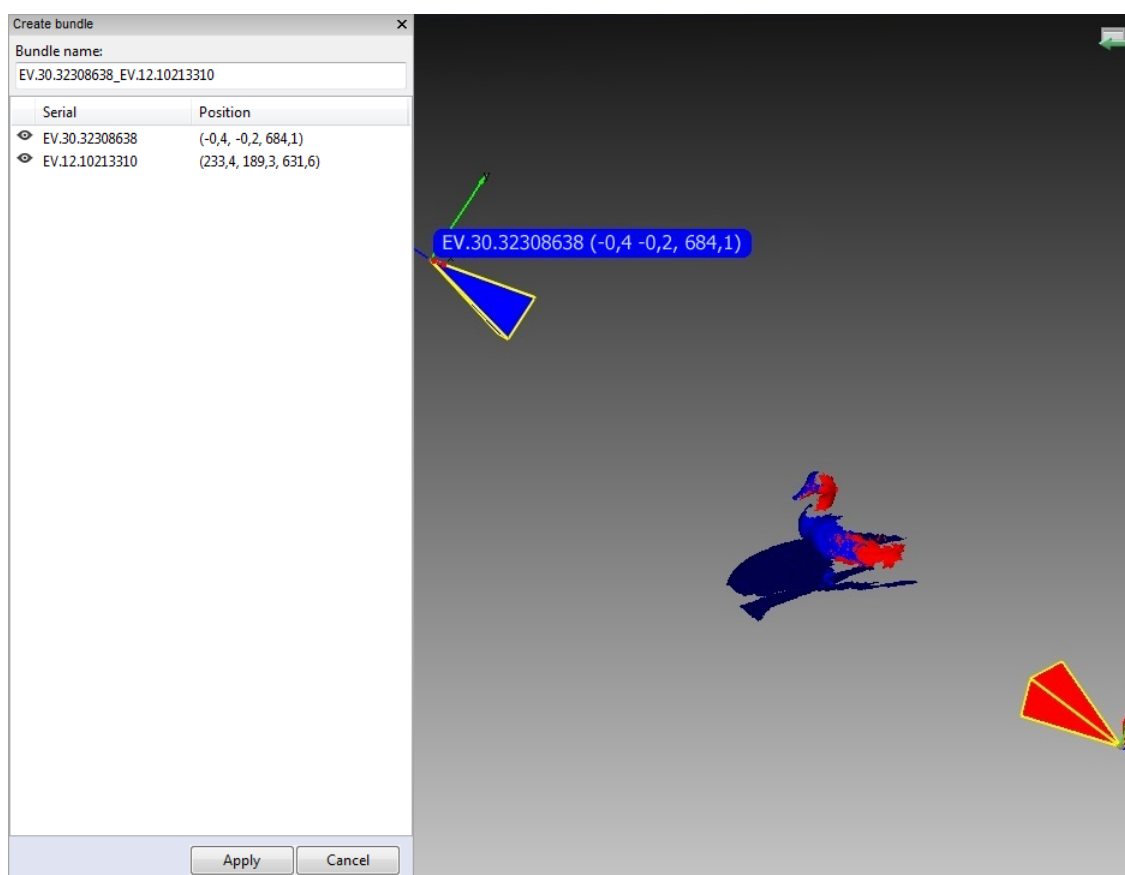

Figure 190: Bundle-creation window.
7. From the menu, select *File* → *Create bundle*. A warning message will appear if you forget to align the scans. Otherwise, the bundle-creation panel will appear (see Figure 190). The *3D View* window will show the selected scans, the position and viewing direction of the scanners (by means of an appropriately colored pyramid), the device ID, and the scanner coordinates. It will display a list of connected devices and corresponding information.